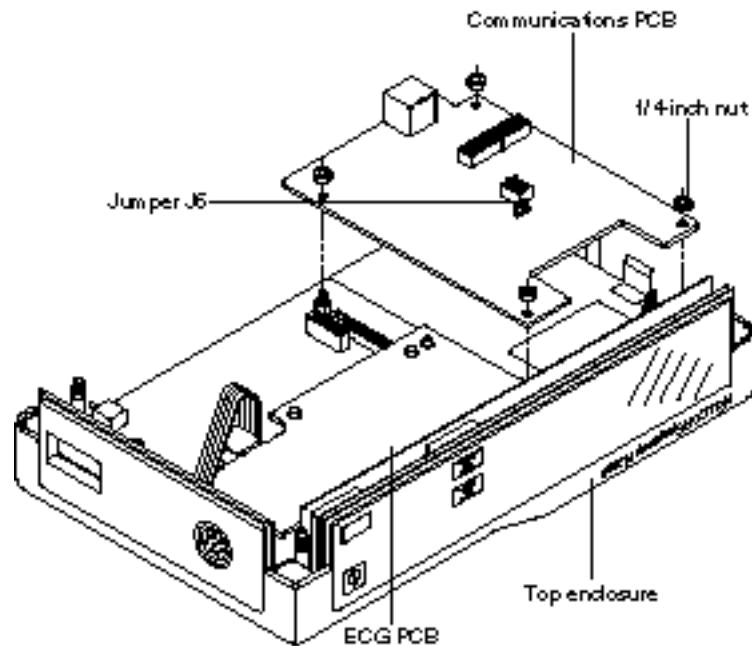

Figure 6-8: Communications PCB Removal
- Using a 1/4 inch socket or needle-nose pliers, remove the Communications PCB by removing the four 1/4-inch nuts that secure it to the UIF PCB (Figure 6-8). After removing the nuts, lift straight up.